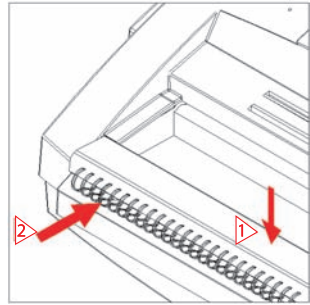

Figure-5
- ▶ Press down the **press sheet** as shown figure-5.
- ▶ Put the wire comb under the **press sheet** as shown figure-5.